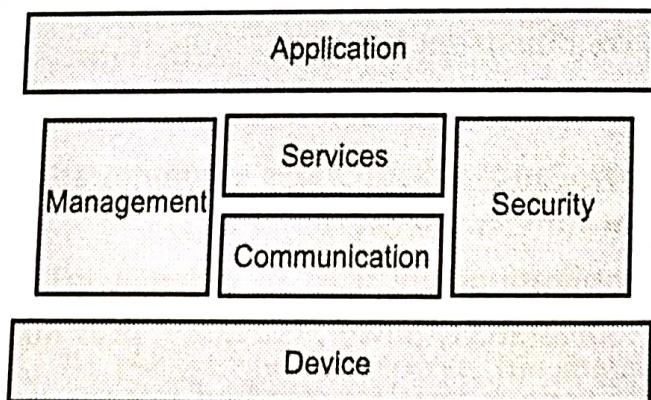

Fig. 4.1.3 : Functional block of IoT
- Fig 4.1.3 shows IoT functional blocks.